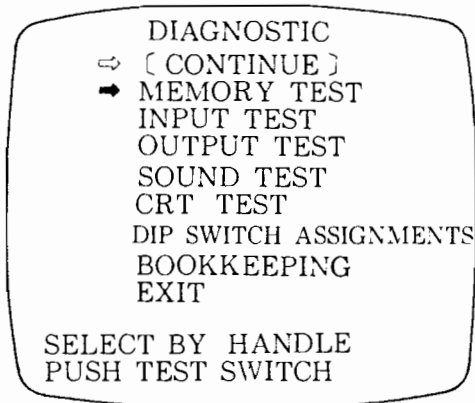

FIG. 1
- (1) Push the test switch and Fig. 1 will be shown on the screen.
- (2) Select CONTINUE or INDIVIDUAL by using the START button.
(4) When each test is finished in the case of CONTINUE, push the TEST button, and it will automatically go into the following test. If the TEST button is pushed in the case of INDIVIDUAL, FIG. 1 is shown. If you want to end the test mode at this time, bring the arrow to EXIT and push the TEST button, and it will return to the ADVERTISEMENT mode.
Every time the start button is pressed, the bookkeeping test display is repeated. When the test is finished, push the TEST button to end the test (in the case of "INDIVIDUAL", however, the test mode returns to Fig. 1 first).